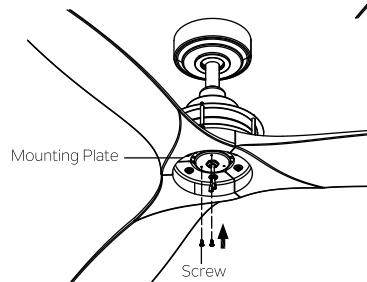

Fig. 23
**Step 3.** Reinstall two screws to the mounting plate (do not tighten these two screws). (Fig. 23)